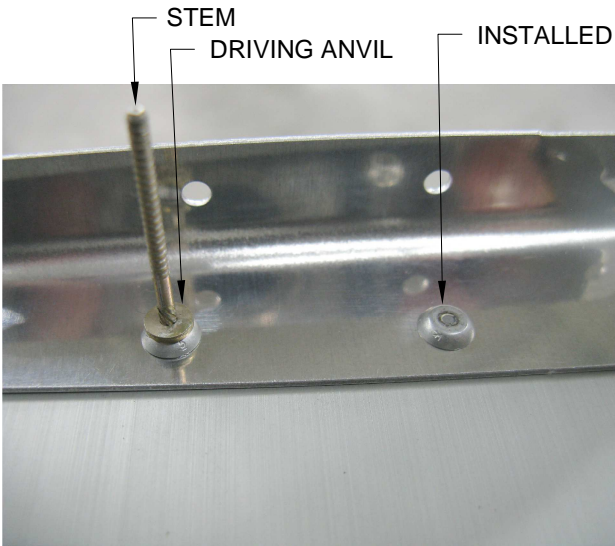

FIGURE 1: MANUFACTURED HEAD
This small washer like device located above the manufactured head is a critical component of the installation process and **must not be removed**. It will detach on its own after the stem breaks. See Figure 1.
Step 3: Insert rivet in hole and verify manufactured head fits square and flush to material surface. See Figure 1.
Step 5: Operate tool while taking care to not lean tool or bend rivet stem while doing so. Continue to pull rivet stem until it snaps free as shown in Figure 1.